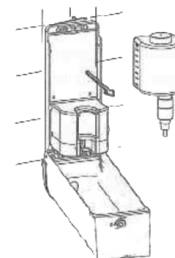

Fig. 4
- › Use the key (supplied) to unlock and pull forward the housing cover (fig.4)